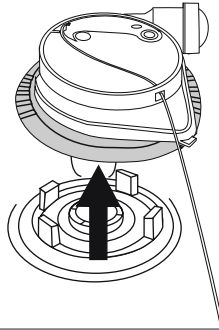
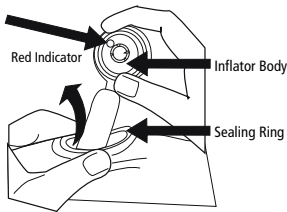

FIG. 14
FIG. 15
5. Squeeze the sealing ring to elongate and remove the black inflator body and cylinder from inside the bladder (Fig. 14). Discard (Fig. 15).